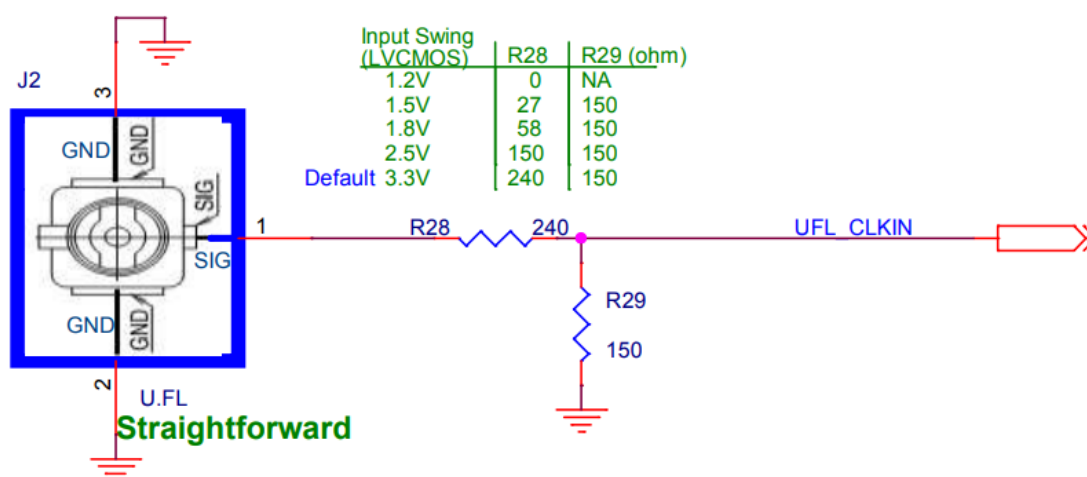

Figure 2-21 U.FL clock input signal level setting
*(1): The I/O standard of the **UFL_CLKIN** clock input from J1 to the FPGA needs to be **1.2V**. If the input clock I/O standard from the J1 exceeds 1.2V, it should be divided to 1.2V by using two series resistors (R28 and R29). **Figure 2-21** shows that in the case of different input clock voltage level, the corresponding resistance value settings for R13 and R28 are required.